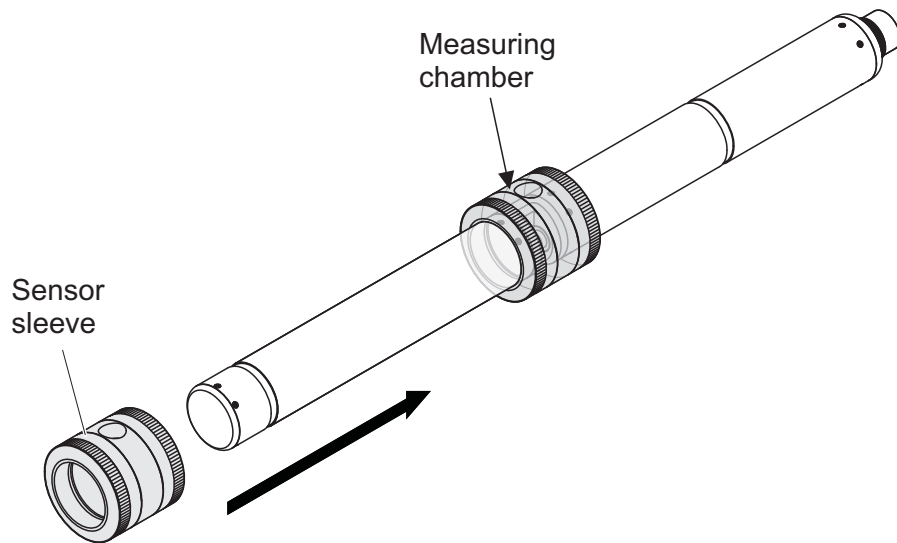

figure 4-4 Putting the sensor sleeve on the sensor
9. Put the sensor in a horizontal position on a firm and vibration-free surface. Turn the filling opening of the sensor sleeve upward (figure 4-4).